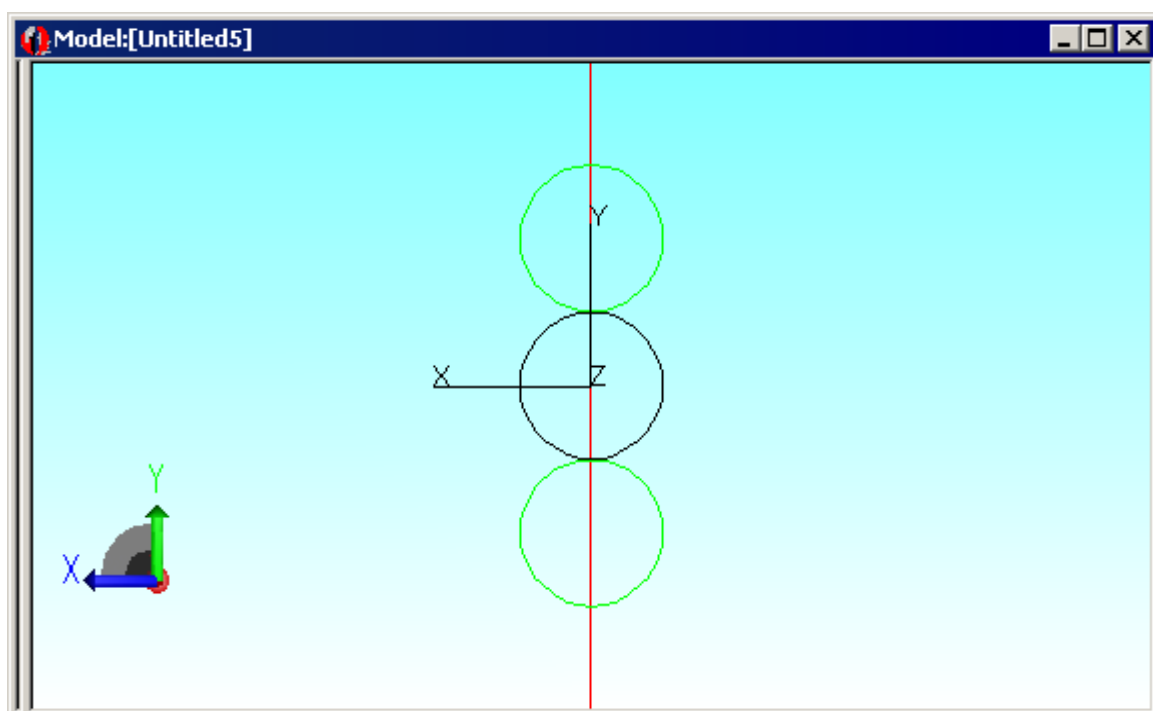

FIGURE 9.43 - XY Profile of Linear Lens Array.
13. If the bottom lens is not highlighted, select the bottom lens. See Figure 9.43.